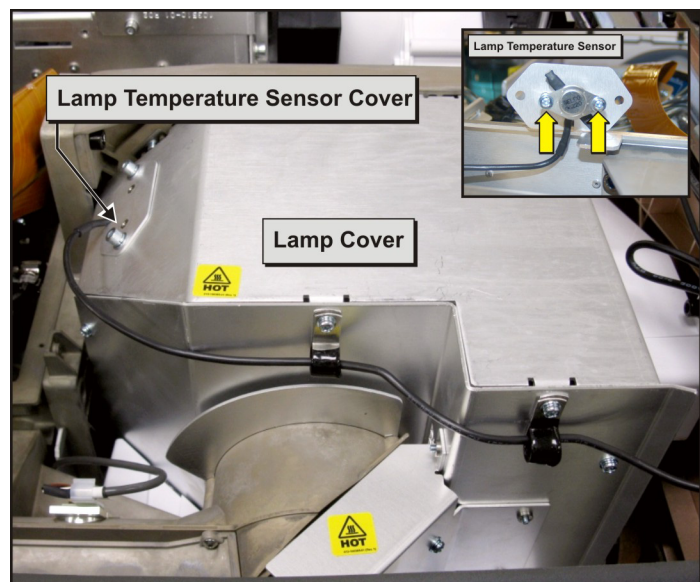

Figure 5-34 Front Lamp Cover & Lamp Shield
6. Remove the two M3 screws securing the lamp temperature sensor to the lamp cover (**Figure 5-34**).
7. Remove the two M3 screws securing the sensor to the cover (**Figure 5-34**).